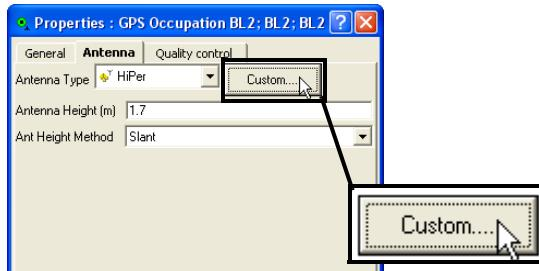

Figure 5-9. Custom Antennas List
2. On the *Antenna* tab, click **Custom** (Figure 5-9) to display the *Custom Antenna List*.